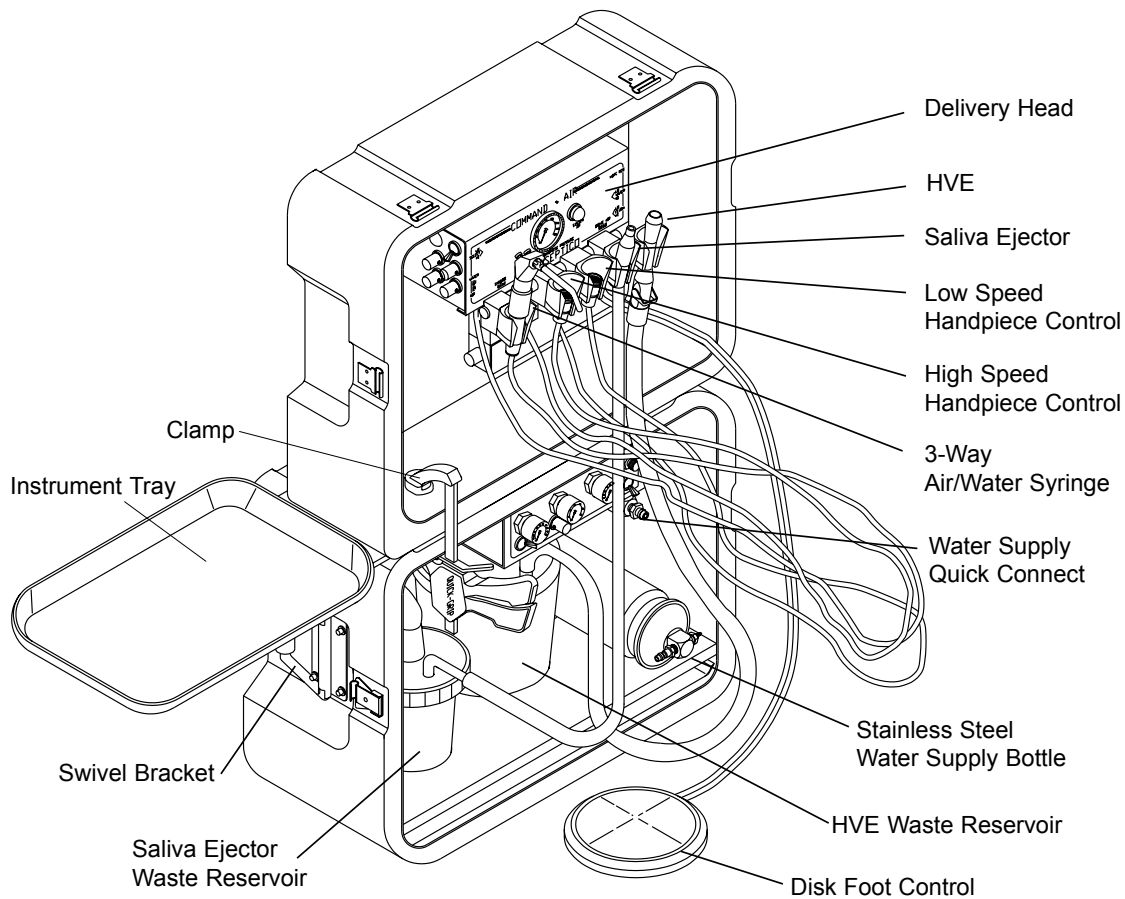

Figure 3 - ADU-10CF Component Locator
3. Lock the hinged lid open by attaching the Quick-Grip clamp to the case as shown in Figure 3.
6. Remove air water syringe and handpiece tubings from their labeled storage pouch and hang in the appropriate holders on the delivery head. Remove disc foot control from the same pouch and place on the floor. Figure 3
7. Remove the air supply line from its labeled storage pouch and attach to the unit first, and then the compressed air source. The air supply line is furnished in two 10 ft. sections with quick disconnects. Assemble as shown in Figure 3.